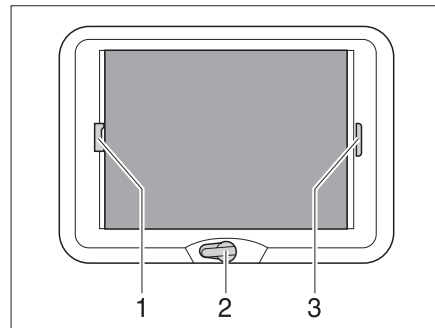

Fig. 62 Wind-up skylight
- Rotate the hand crank (Fig. 62,2) until a resistance can be felt (max. opening angle 70°).
- ▶ Pull the handle of the Roman shade (Fig. 62,3) and release in the desired position. The Roman shade will stay in that position.
- ▶ Pull insect screen at the handle (Fig. 62,1) to the opposite handle of the Roman shade (Fig. 62,3) and allow to engage.
- ▶ Press the handle of the insect screen (Fig. 62,1) at the back upwards and detach the insect screen from the Roman shade (Fig. 62,3).